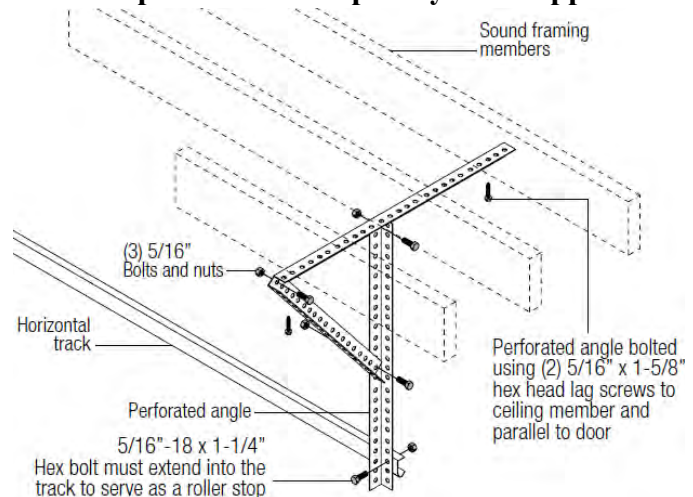

Figure 15
Step 16: The rear track hangers and sway braces need to be installed at this point. They are used to attach the rear of the track to the ceiling joist and to prevent the tracks from spreading. These hangers must be strong enough to hold the full weight of the door. See figure 15. If door is taller than 8 feet follow chart below for recommended center hangs. See figure 16.